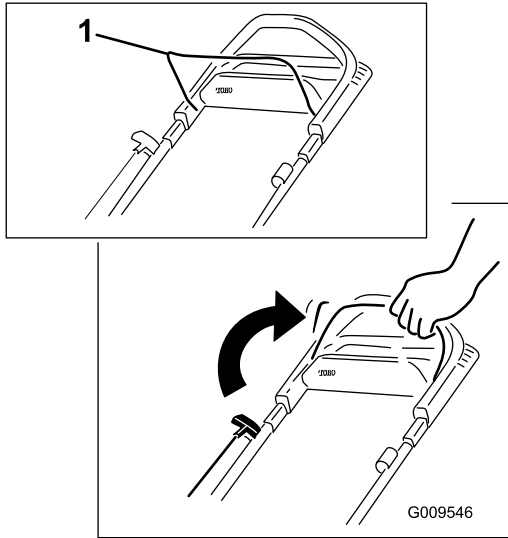

Figure 12
1. Hold the blade-control bar against the handle (Figure 12).